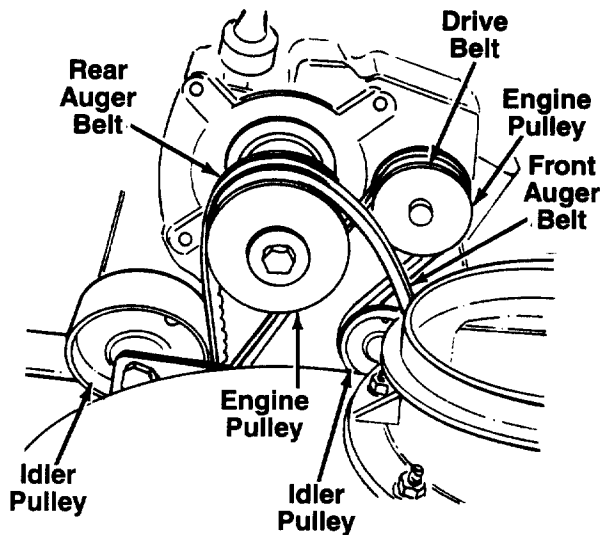

FIGURE 19.
5. Roll the front and rear auger belts off the engine pulley. See figure 19.
2. Pull idler pulley up, and lift belt off engine pulley and friction wheel disc. See figure 19.